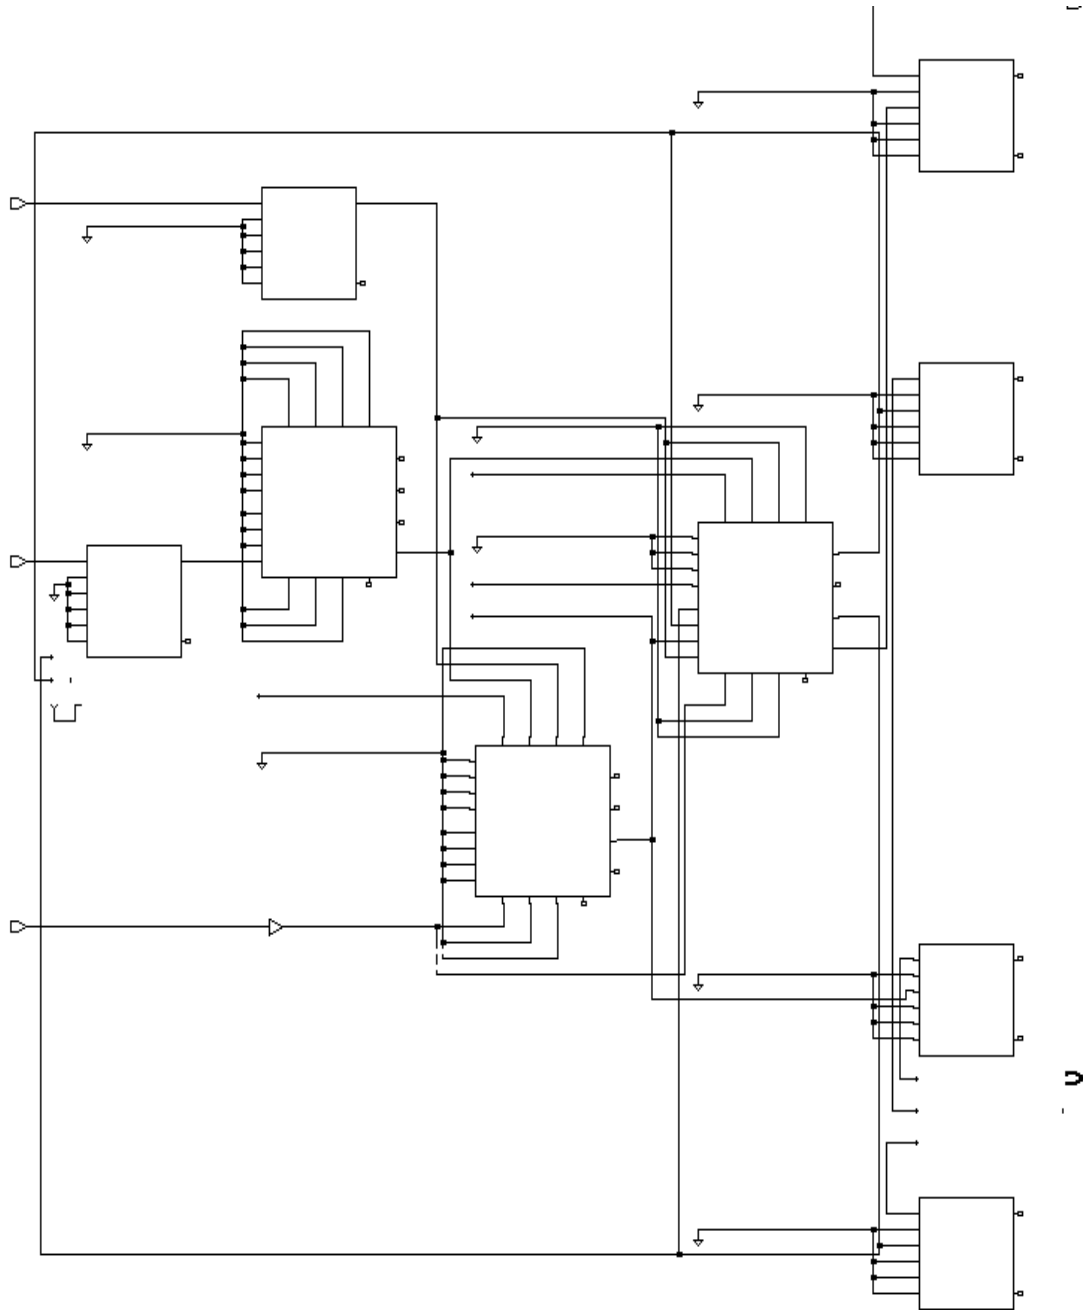

Figure 23: Count3 design before replace\_fpga.
(4) Use the Design analyzer to view the two results ( before and after replace\_fpga). Can you identify the fpga resources used? Figures 23 and 24 give the results of the synthesis.